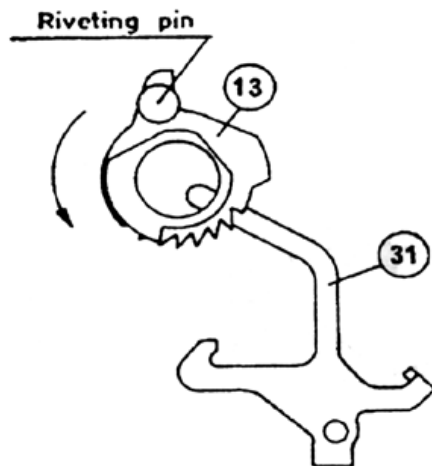
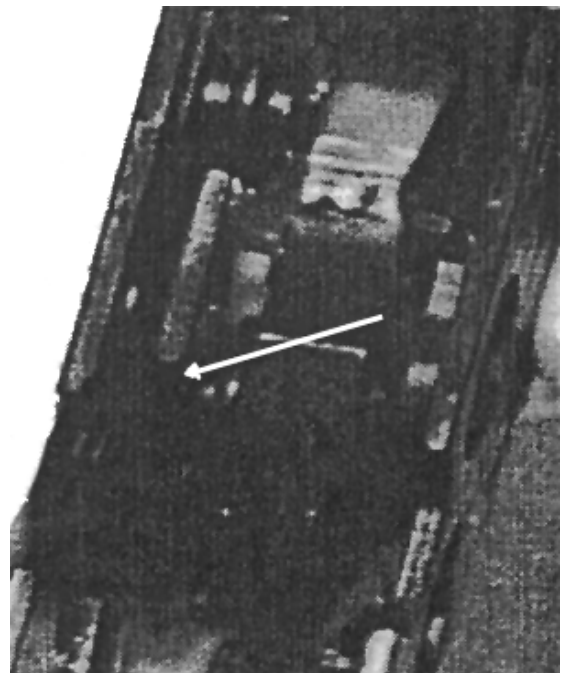

Figure 56
Figure 55
- Position *counting wheel* so *compression rod anvil* is resting on housing anvil on right side of housing, left side of *counting wheel* should be on top of *ejector slot* (Fig. 55). Thread *catch lever* through *hammer spring hole* in *counting wheel*. (Fig. 56)